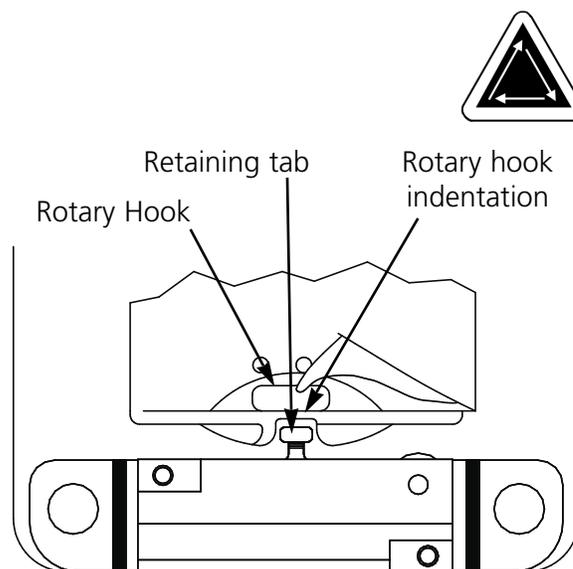

Figure 5-24
9. Align the UTC retaining tab in the inner basket of the rotary hook (shown in Figure 5-24). If the inner basket moves, it may break a needle or damage the hook.